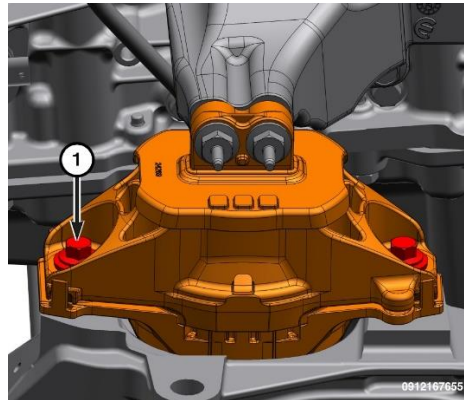

Figure 5.
6. Loosen the right engine mount bolts. (Figure 5)